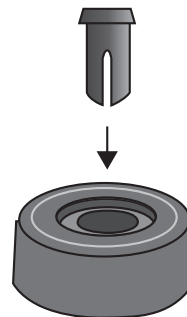

Figure 27. Inserting the Rivet Housing into the Bumper Foot
2. Insert a rivet housing into a bumper foot. Refer to Figure 27.